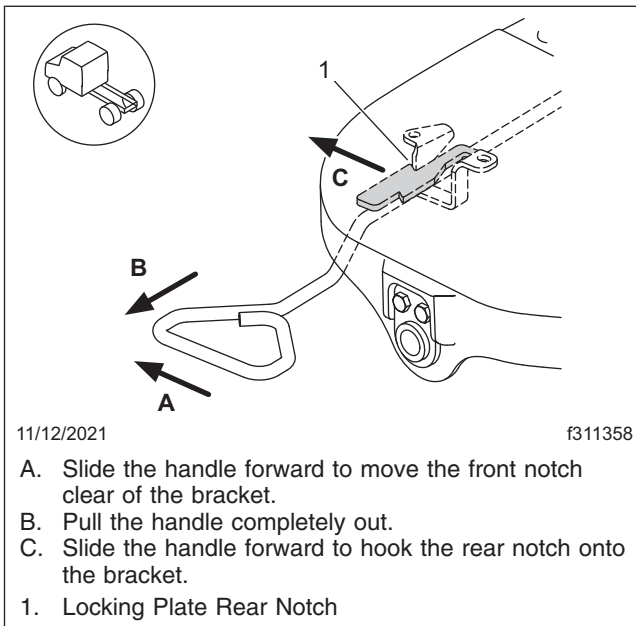

Fig. 17.11, Unlocking a Holland FWAL
- Slide the release handle forward again to hook the rear notch on the locking plate onto the bracket as shown in Fig. 17.11.
Slide the handle forward again to hook the rear notch on the locking plate onto the bracket as shown in Fig. 17.11.